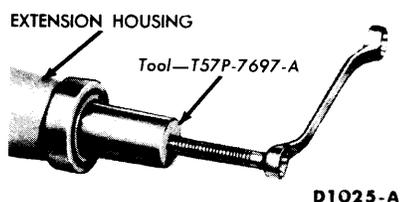

FIG. 3—Extension Housing Bushing Removal
3. Remove the bushing as shown in Fig. 3. Use the bushing remover carefully so that the spline seal is not damaged.